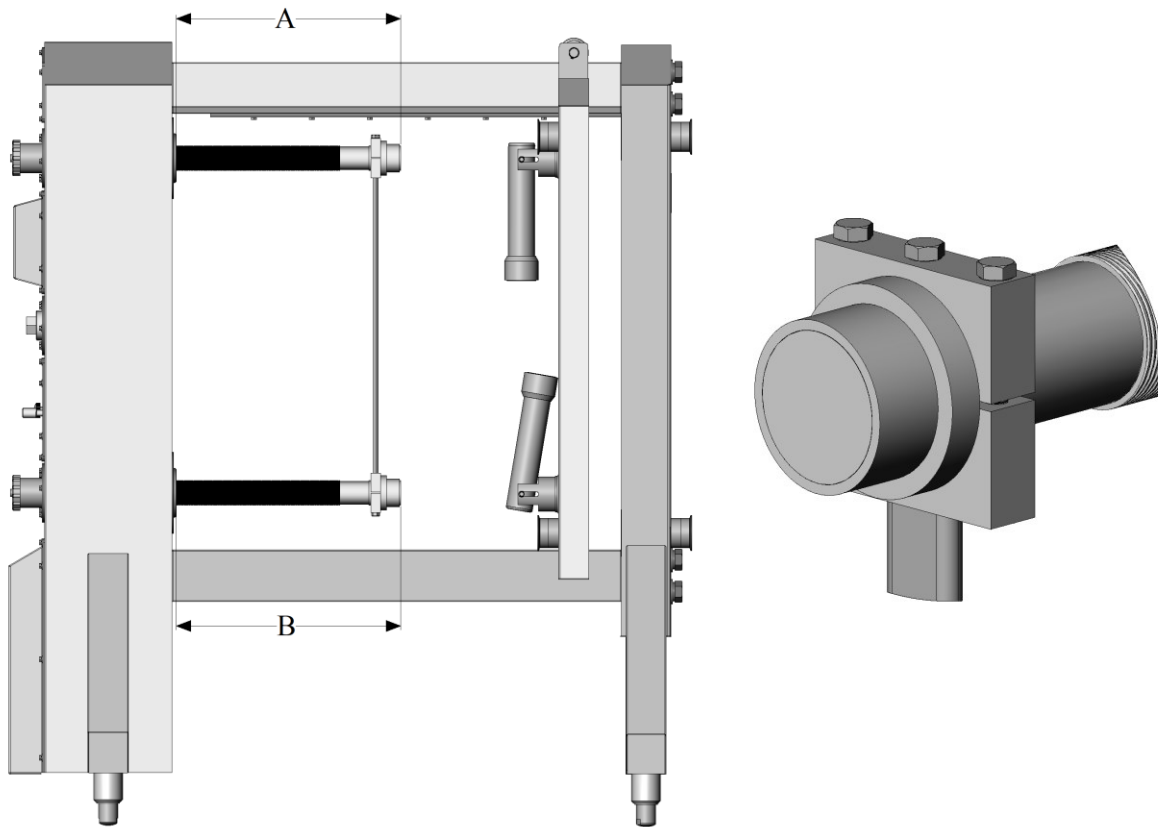

Figure 6-10
15. Next, adjust the spindle shafts so they are spaced an equal distance from the End Support (see figure 6-10). Dimensions 'A' and 'B' must be equal. To adjust this dimension, loosen the two outside hex head screws and the center screw on the reaction bar end. Then rotate the spindle to establish matching dimensions A & B.